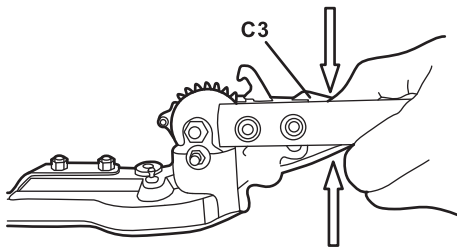

Fig. 15a
a). Depress the unlock levers (C3) with one hand and hold them in position. (See Fig. 15a)